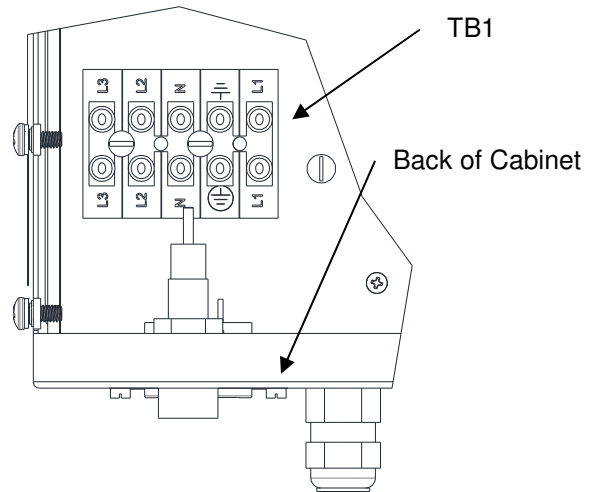

Figure 8: Location of TB1 in Controller
1. **Ensure the AC line cord is unplugged** and remove the AC inlet receptacle wiring from TB1-N, TB1-L1 and TB1-EARTH GROUND (See Figures 8 and 9).
A set of relay contacts for high voltage (CR1) and fault (CR2) conditions is provided at 4TB-3 and 4TB-1 (See Figure 8). One end of these relay contacts are connected together and also connected to a source input terminal 4TB-2 (See Figure 11). When a source voltage is present at 4TB-2 and either the high voltage is on or a fault condition occurs, the source voltage will become available at the output end of the corresponding contact. Maximum contact ratings are as follows: